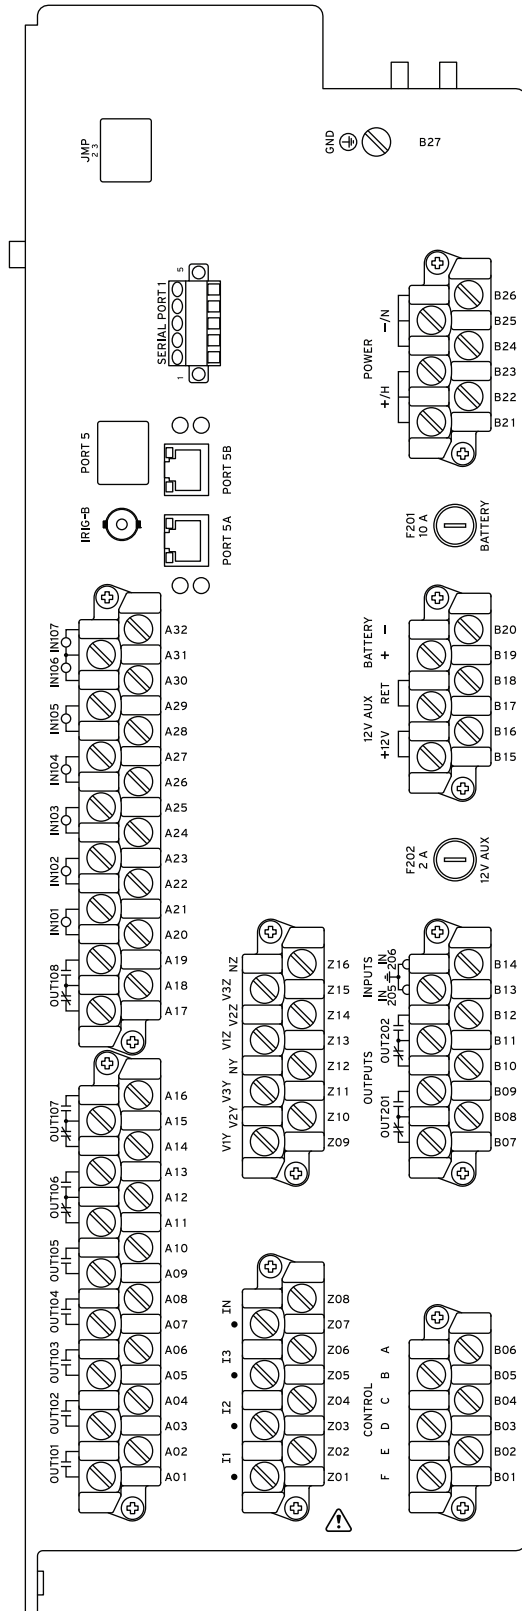

Figure 24 SEL-651RA Side Panel
- Two Form C (normally closed/normally open) standard-interrupting output contacts: OUT201 and OUT202 (see *Figure 24*). OUT201 is factory-programmed as an alarm output.
Order the following additional input/output (I/O) (see *Figure 24*):